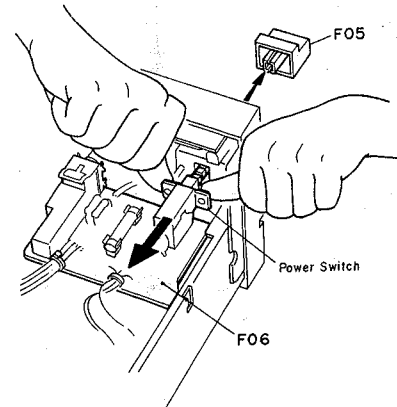

Fig. 2.3.2
- (1) Remove the Top Cover Ass'y and Bottom Cover Ass'y referring to item 2.1.
- (2) Pull out a knob F01, loosen a nut F02, and remove a washer F03.
- (3) Loosen a screw F04 and remove a button F05. To remove F05, push the Power Switch rearward as shown in Fig. 2.3.2.
- (4) Remove F06 (Power Switch P.C.B. Ass'y).